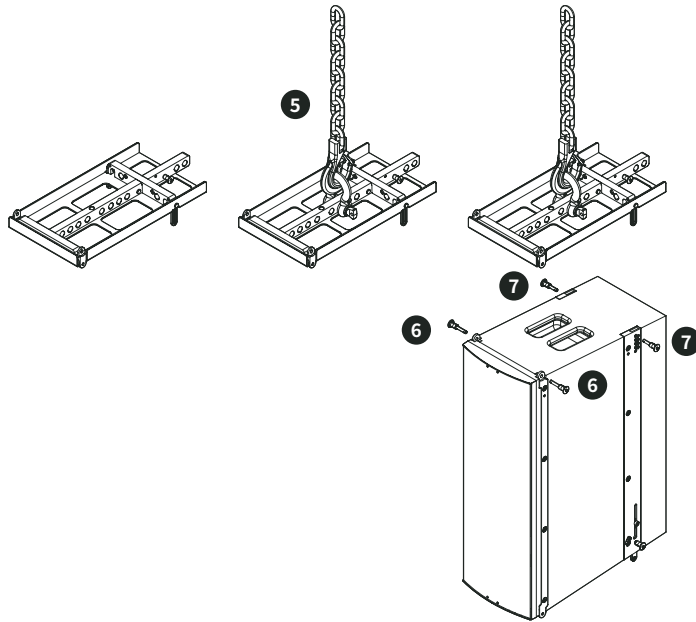

Figure 16. Attaching the M-F3A FS subwoofer to the M-F3A FS BF frame.
5. Connect the M-F3A FS BF bumper frame to the hoist chain/s using appropriate shackle/s in the hole/s selected for the desired tilting. See figure 16.
7. Lock the upper rear part of the subwoofer by fastening the top security pins with the rear releasable bars of the M-F3A FS BF bumper frame. See figure 16.